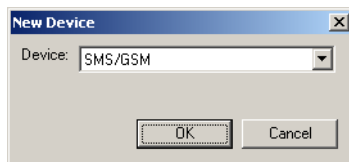

Figure 99. New Device Dialog Box (SMS/GSM)
3. Click **New** to add the SMS/GSM Device to this user. The New Device dialog box appears with SMS/GSM as the default in the Device: drop-down list box as shown in Figure 99.